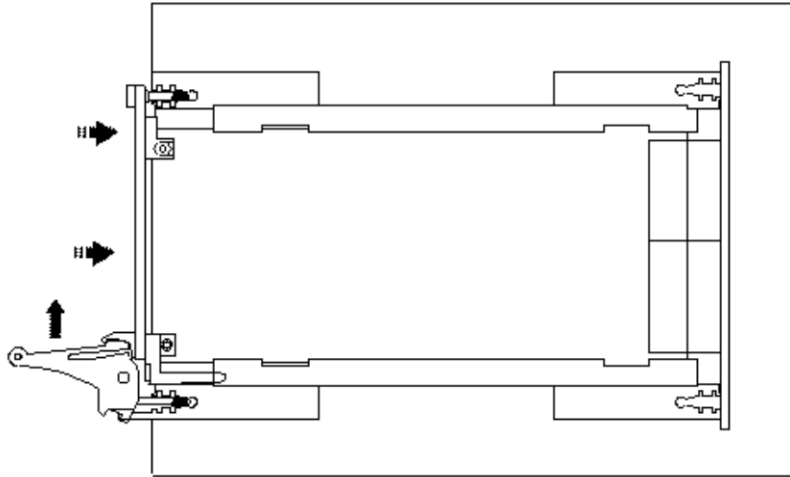

Figure 3-3: Ejector handles position after module insertion
5. After you feel resistance, push in the ejector handles as shown in Figure 3-3 to secure the module into the frame.